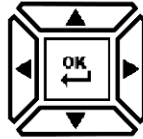

Fig. 4-4 Selector Navigation Pad
There are five (5) 'soft' Function buttons arranged in a square, as shown in Figure 4-4. The function of these buttons changes, depending on the menu-driven sub-function selected.